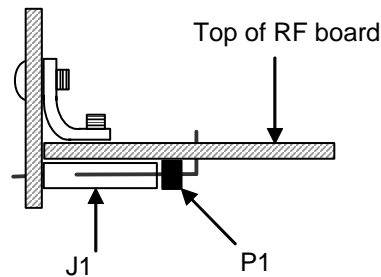

Figure 14. Installing J1 and P1.
- Position the front panel PCB as shown in Figure 14. The pins of J1 should be inserted into the holes in the front panel PCB, and the two L brackets should be aligned with their outlines on the back of the front panel PCB. The edge of the RF PCB fits between the socket for U1 and Q2, Q3, Q4 and Z1 on the front panel PCB.